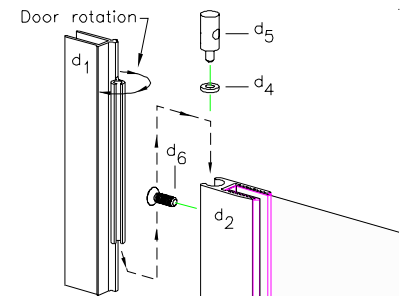

figure 4
8. Insert the Hinge Post (d1) into the Hinge Stile (d2) as shown in figure 4. Take a minute to check the door rotation (*is it the correct rotation for your configuration*)? If it is not, then make it so. When satisfied, proceed.
9. Insert Hinge Washer (d4) and Hinge Bushing (d5) into Hinge Stile (d2) as shown in figure 4. Rotate Hinge Post (d1) out of the way and secure the bushing with one(1) Door Assembly Screw (d6) as shown in figure. Repeat step for opposite end.
11. Insert Strike Post (C) into appropriate Wall Jamb. Measure from bottom of Strike Post (where it sits on Sill) to the bottom of the Door Pull. Trim bottom Seal Vinyl (F) to a 1/4" more than measurement obtained. Insert trimmed Seal Vinyl into Strike Post as indicated in exploded view. Next insert Magnet Strip (G) into Strike Post. Finally insert remaining Vinyl Seal (F) and trim top excess as required.